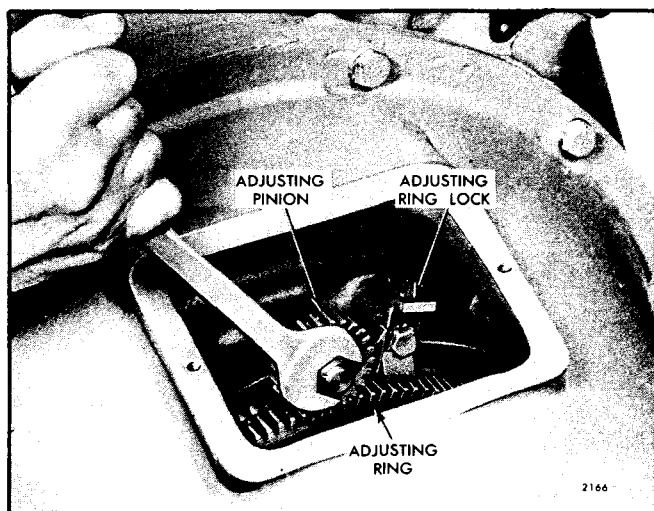

Fig. 15 - Power Take-Off Assembly Showing Method of Adjusting 18 Inch Diameter Clutch
2. Loosen the lock bolt and pull the lock out of mesh with the adjusting ring; then, tighten the lock bolt to hold the lock out of the adjusting ring. While holding the clutch drive shaft to prevent the clutch from turning, turn the adjustment pinion clockwise to tighten the clutch as shown in Fig. 15.